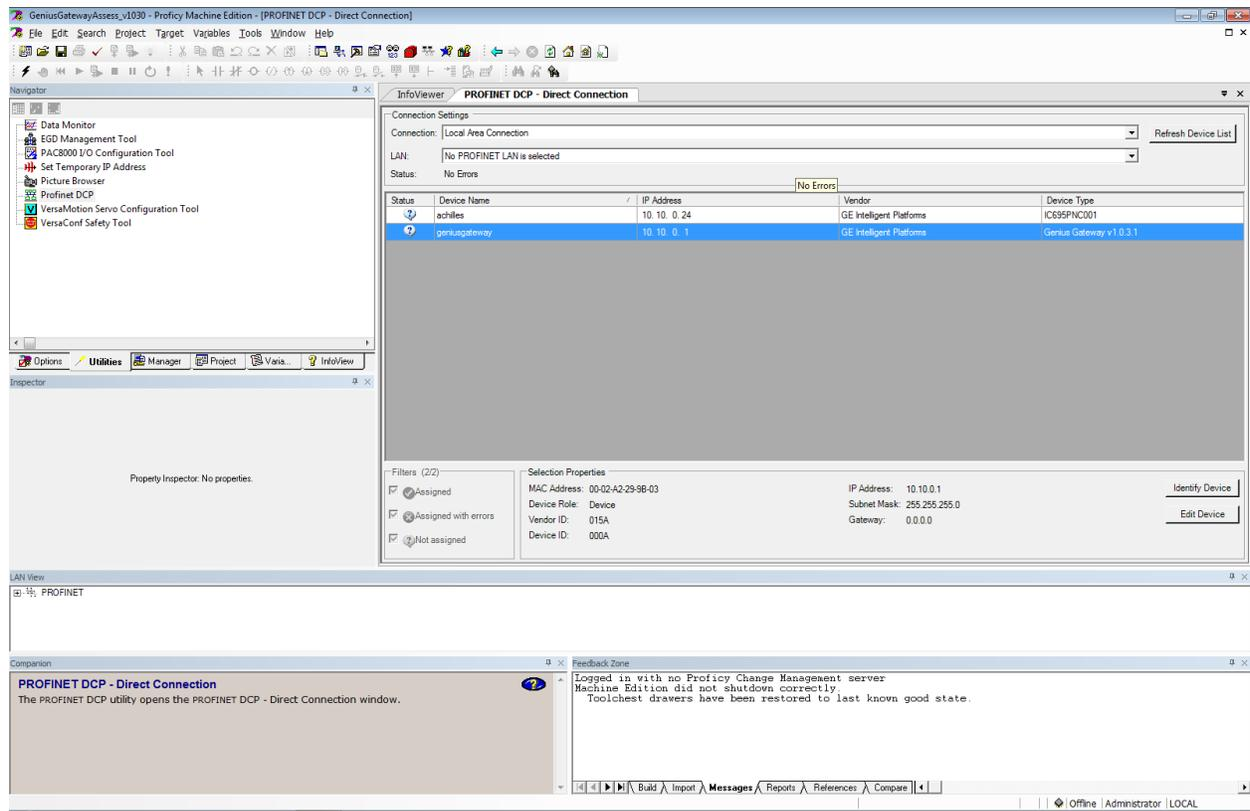

Figure 12: PROFNET Discovery Screenshot
4. Use PROFINET/DCP tool in PME to assign a name to the GCG001 Gateway so that the PROFINET Controller can connect to it and send its configuration. To do this, right-click the PNC001, then select **Launch Discovery Tool GCG001**. The tool will appear in a new InfoViewer tab entitled **PROFINET DCP - Direct Connection** (see Figure 12).
Note: **geniusgateway...** is the default PROFINET **Device Name** that PME gives to a GCG001 in the Hardware Configuration under a PNC001. This **Device Name** *must match* that given to the module itself using the PROFINET/DCP (Discovery and Configuration Protocol) tool (Figure 12). If there are multiple GCG001s on a PROFINET bus, each of the modules' **Device Names** must be unique. You can change it by selecting the device in the Navigator, then typing in a new name in the Inspector.